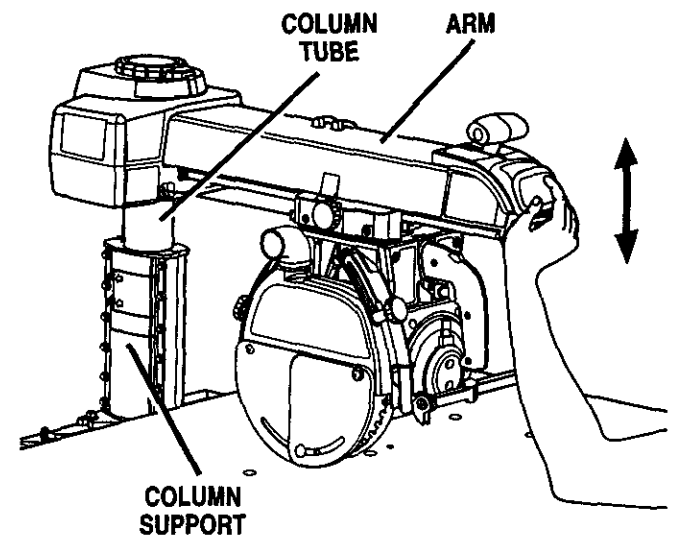

Fig. 20A
See Figures 20A - 20D.
- **Elevation check:** To check the elevation movement, place your hand under the front of the radial arm. Press upward on the radial arm. There should be no play between the column tube and the column support. The whole assembly should move as one. See Figure 20A.